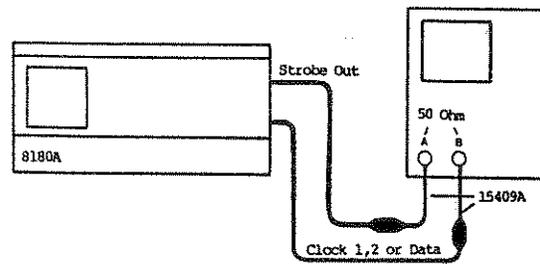

Figure 4-2 Skew Test Setup
10. Connect equipment as shown in Figure 4-2 and press RUN.